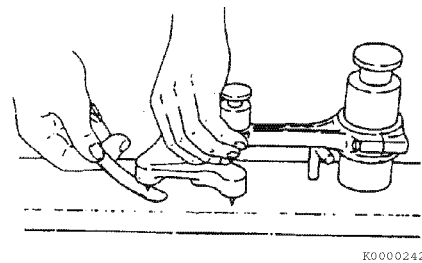

**Figure 6-69**
1. Measure the wrist pin bushing bore using a bore gauge (**Figure 6-69, (1)**). Replace the bushing if not within specifications. If the bushing has been removed, measure the inside diameter of the connecting rod small end (**Figure 6-69, (2)**). Record the measurements. See *Connecting Rod* on page 6-11 for specifications.